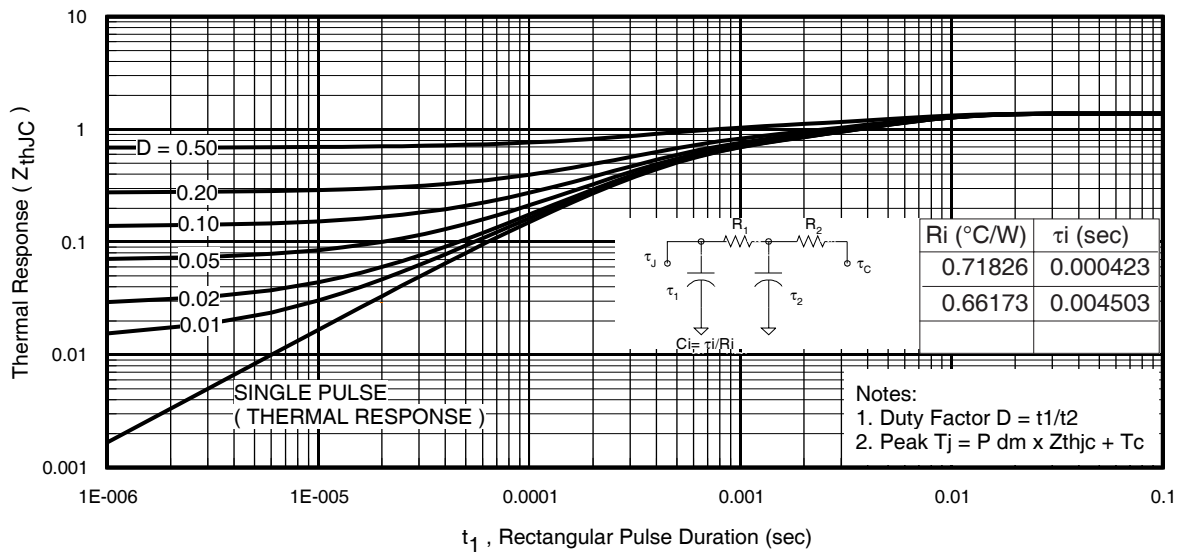

Fig 11. Maximum Effective Transient Thermal Impedance, Junction-to-Case
$Z_{thJC}(D, t_{av})$ = Transient thermal resistance, see figure 11)
- ① Repetitive rating; pulse width limited by max. junction temperature. (See fig. 11).
- ② Limited by T_{Jmax} ; starting $T_J = 25^\circ\text{C}$, $L = 0.21\text{mH}$, $R_G = 25\Omega$, $I_{AS} = 30\text{A}$, $V_{GS} = 10\text{V}$. Part not recommended for use above this value.
- ③ Pulse width $\leq 1.0\text{ms}$; duty cycle $\leq 2\%$.
- ④ C_{OSS} eff. is a fixed capacitance that gives the same charging time as C_{OSS} while V_{DS} is rising from 0 to 80% V_{DSS} .